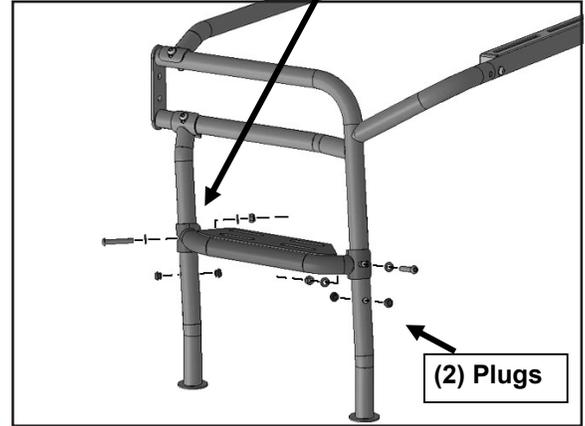

FIGURE 14
13. Select the driver/left Rear Corner Tube Assembly and driver/left Support Tube. Attach the Support Tube to the Corner Assembly with (1) 8mm x 50mm Button Head Bolt, (2) 8mm x 16mm Small Flat Washers and (1) 8mm Nylon Lock Nut, **(FIGURE 13)**. Next, attach the driver/left Corner Step to the two tubes with the included (2) 8mm x 50mm Button Head Bolts, (4) 8mm x 16mm Small Flat Washers and (2) 8mm Nylon Lock Nuts, **(FIGURE 14)**. **NOTE:** There are (2) sets of mounting holes to choose from for the Step, use the included (4) Plugs to seal off unused mounting holes. Repeat this **Step** to assemble the passenger/right Corner Assembly and Step.